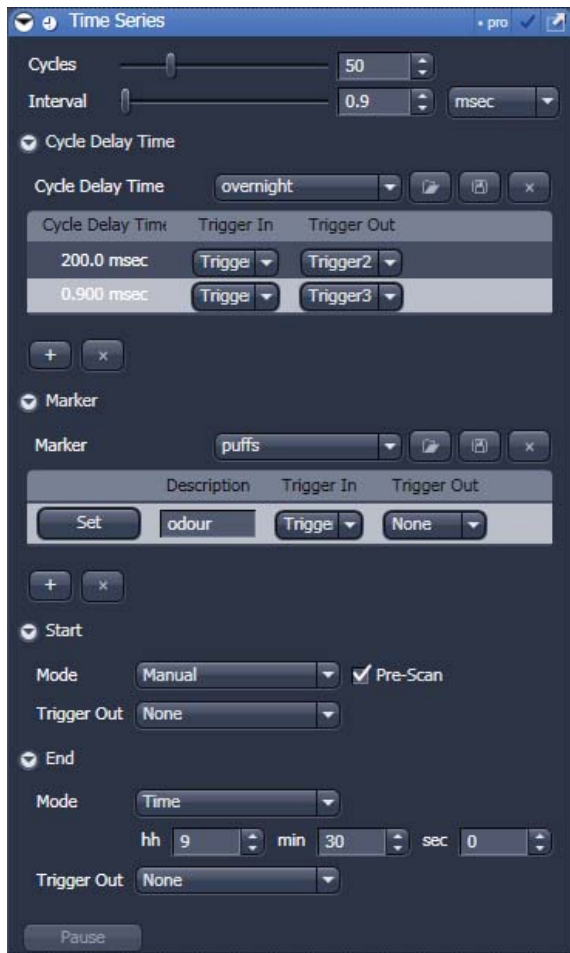

Fig. 4-64 Time Series tool
- Activate the main tool tab **Acquisition** and open the Imaging Setup tool. Chose Channel Mode for the image acquisition and check the box next to Track1 (Fig. 4-64).